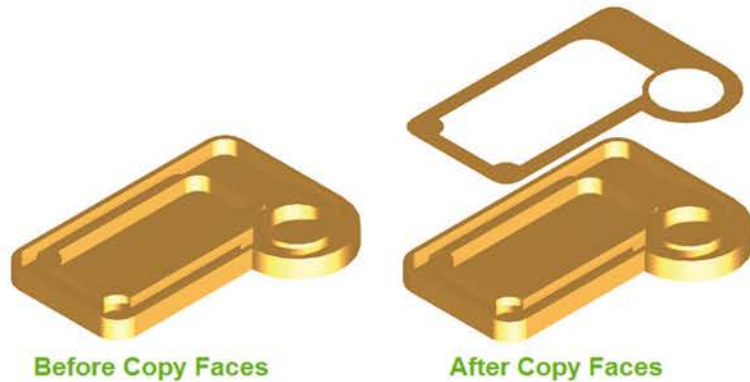

Fig. 19.10 Sixth example – Copy Faces tool
SIXTH EXAMPLE – COPY FACES TOOL (FIG. 19.10)
3. Add lights and a material to the 3D model and its copied face and render (Fig. 19.10).